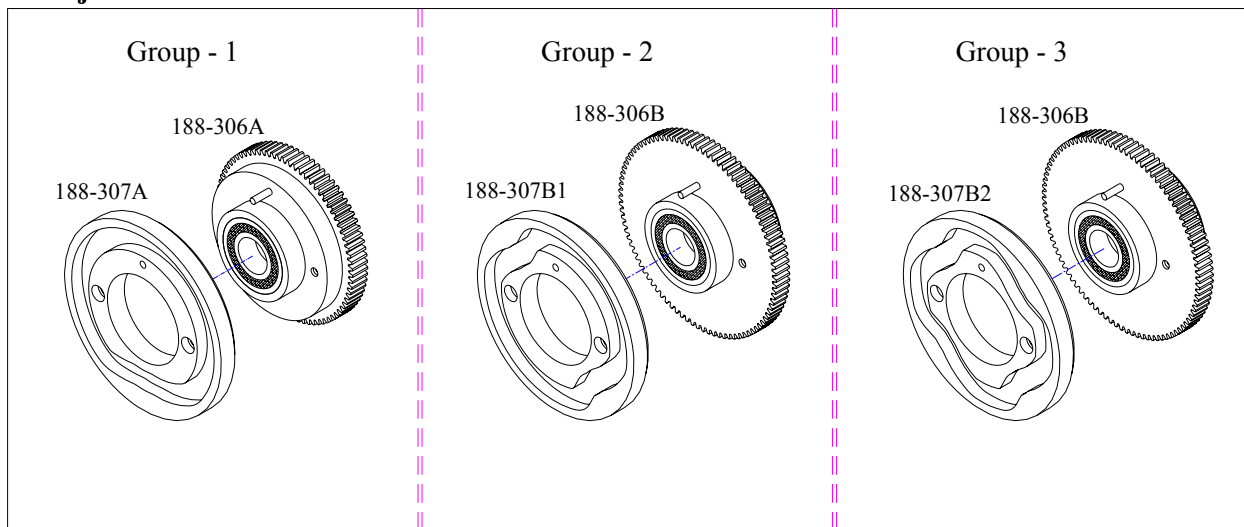

Fig.6
4.1.2 Change and set the transport cam (Fig.6, Fig.7)
The transport cam (188-307A or 188-307B1, 188-307B2) must match up the gear (188-306A or 188-306B). **The transport cam (188-307A) must match up the gear (188-306A), and the transport cam (188-307B1 or 188-307B2) must match up the gear (188-306B), as shown in Fig.6.**